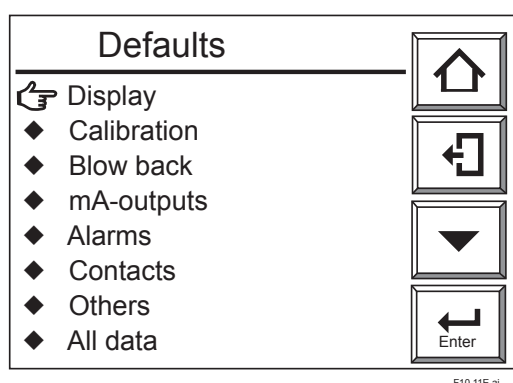

Figure 10.11 Defaults Display
- (1) On the Basic panel display, touch the [Setup] key to display the Execution/Setup display.
- (2) Select "Commissioning", next "Others" then "Defaults". A display like Figure 10.11. appears.